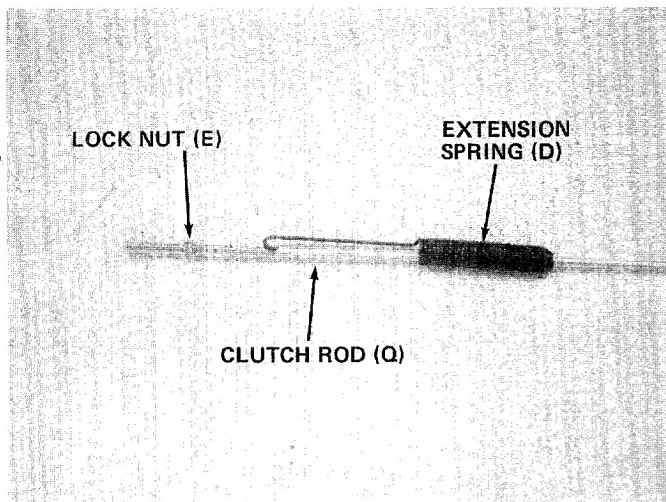

FIGURE 10.
7. Slide the extension spring (D) onto clutch rod (Q) as shown in figure 10. Thread lock nut (E) onto clutch rod approximately 2-1/2 inches.